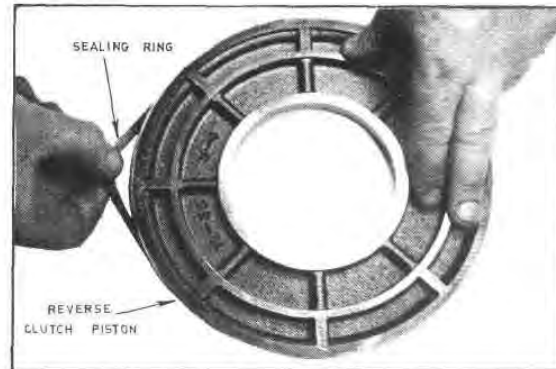

Fig. G79 — Assembling the Reverse Clutch Piston Sealing Ring
45. Assemble a well lubricated sealing ring in the groove provided in the outside diameter of the reverse clutch piston (Figure G79).